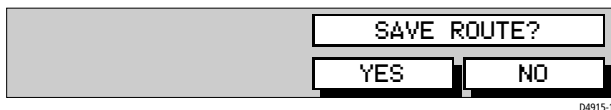

Figure 3-41: Save Route Soft Keys
4. If the route has not been saved the **SAVE ROUTE** soft keys are displayed as shown in *Figure 3-41*.